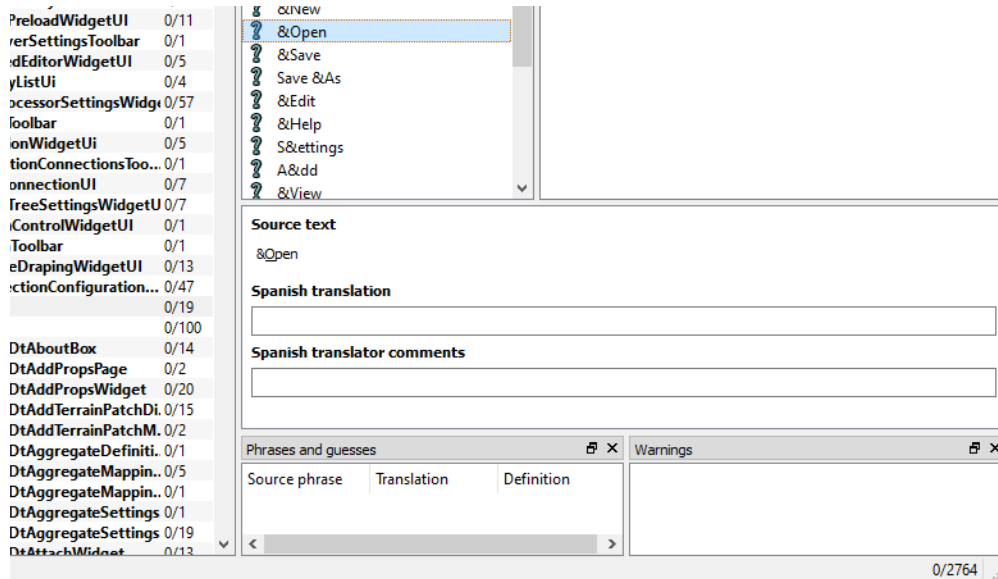

Figure 1-9. Text selected for translation
6. In the Source Text list, select the word you want to translate. The text is displayed under Source Text in the translation area (the window below the source text list.) Figure 1-9 shows the text Open selected.